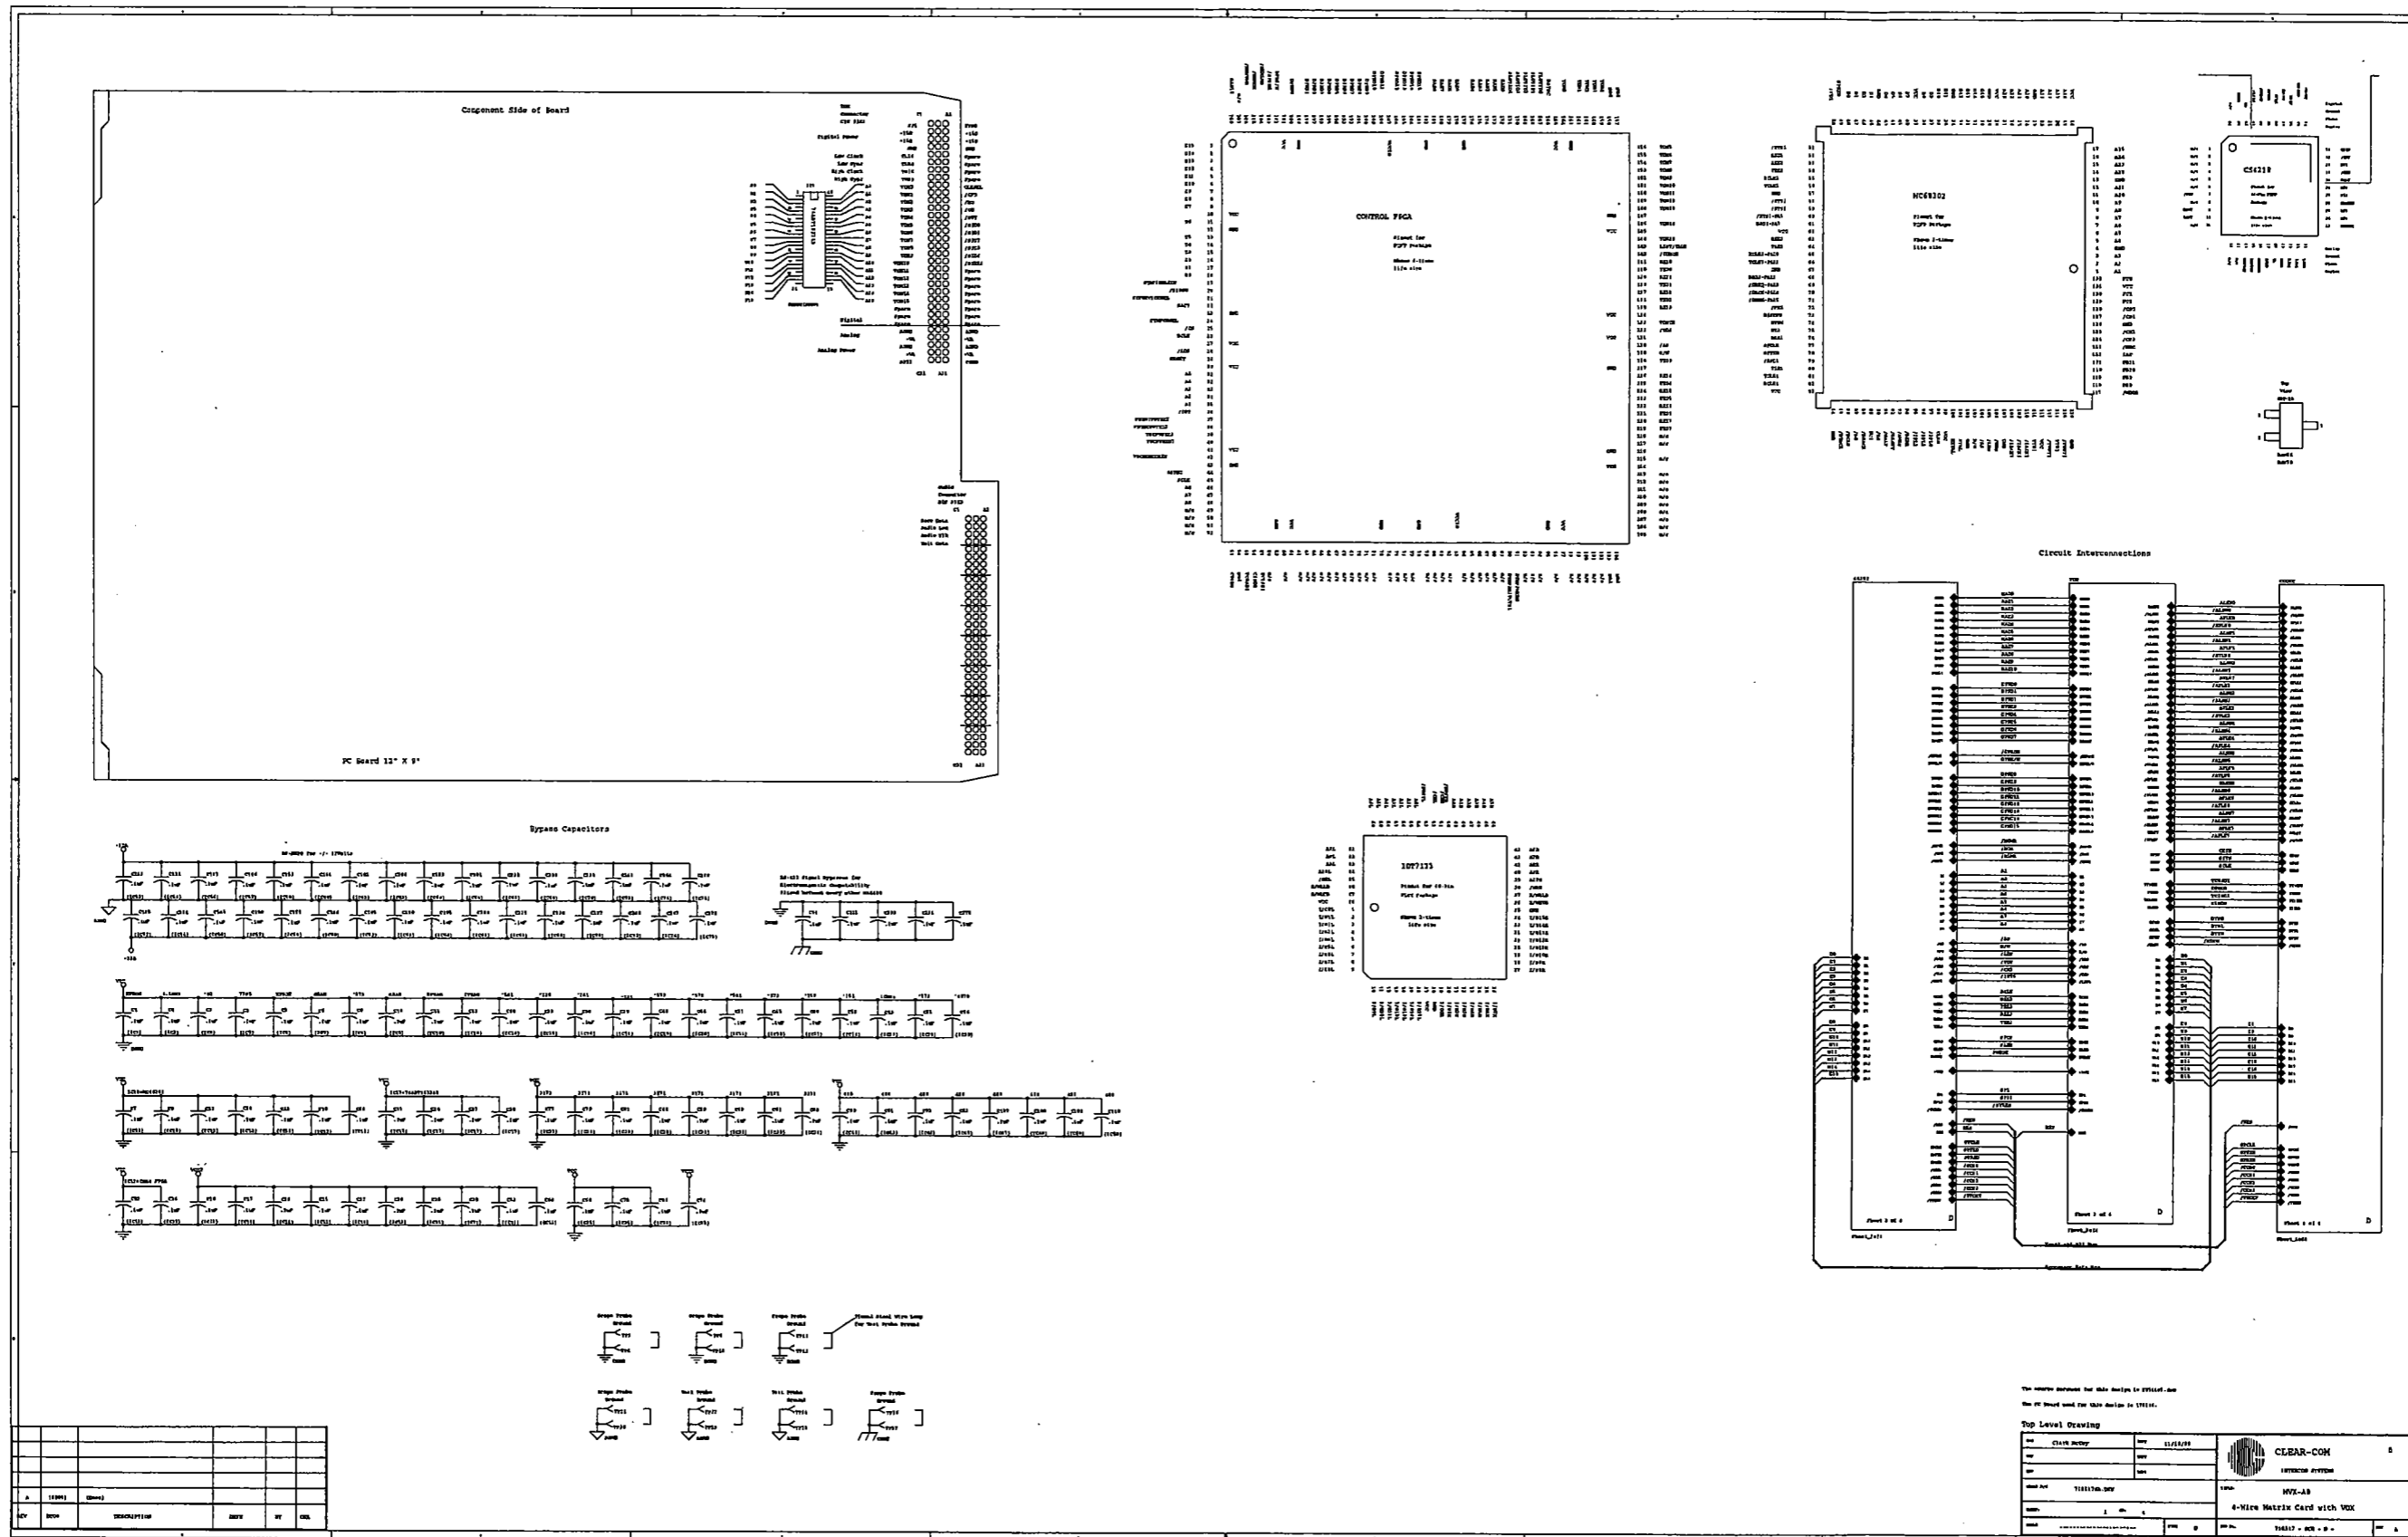

FIGURE M1-3: Schematic - MVX-A8/L8 PCB Sheet 1, Rev. A
- Sheet 1 (Figure M1-3 on page M1-7) contains the interconnection diagram of the remaining three sheets, most of the bypass capacitors of the board, and some reference drawings for most of the large surface mount chips.